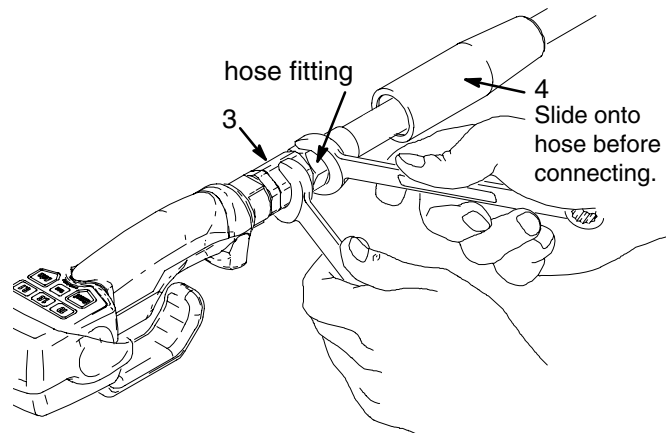

Fig. 3
8. Slide the swivel cover (4) of the EM5 onto the hose, small end first. See Fig. 3.
9. Apply thread sealant to the the male threads of the hose fitting, thread the hose fitting into the swivel (3) of the EM5, and tighten firmly. See Fig. 3.